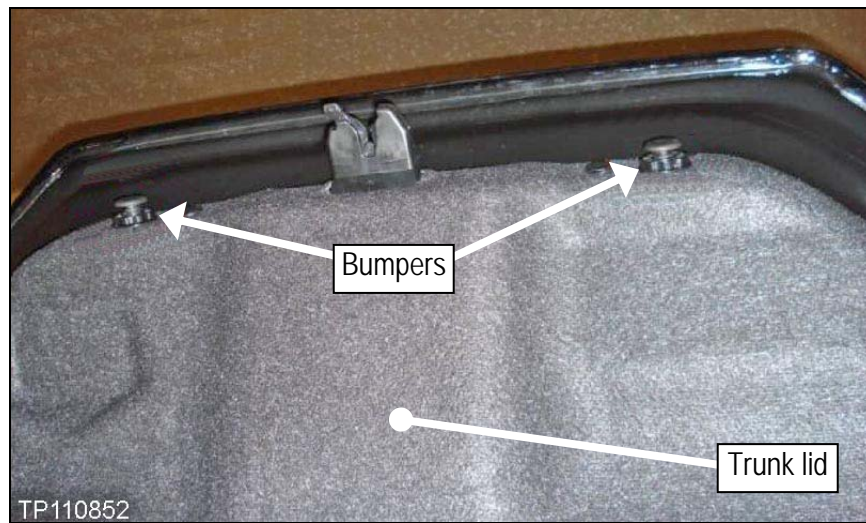

Figure 37f
- Remove both bumpers (see Figure 37f).